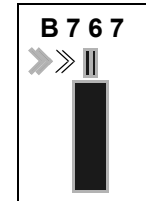

Figure 2
3.4 Look for the flashing red arrow and solid yellow arrow which provide azimuth guidance information. The flashing red arrow shows which direction to steer, while the solid yellow arrow gives an indication of how far the aircraft is off the centreline (see figure 2)